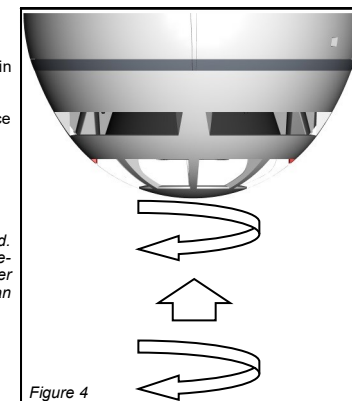

Figure 4
- 3) Continue to rotate clockwise a few degrees until the detector has fully engaged in the adaptor base (figure 4).